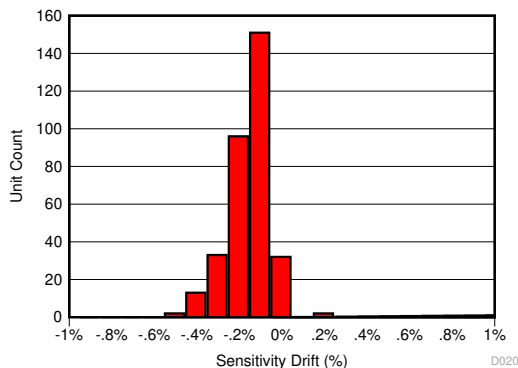
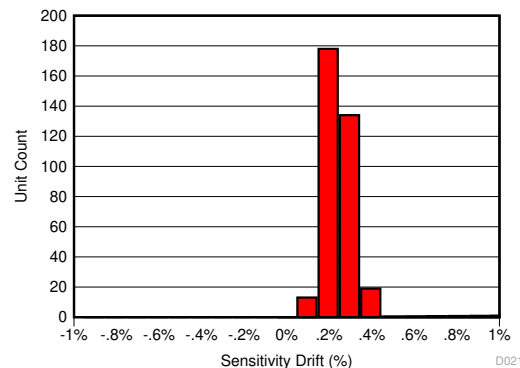
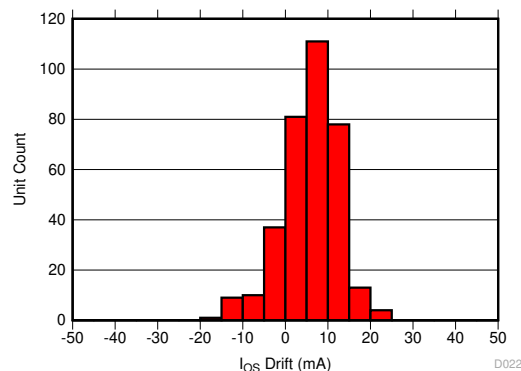

Figure 9-1. Sensitivity Error After 130°C, 85% RH HAST
Figure 9-2. Sensitivity Error Drift After AEC-Q100 High Temperature Operating Life Stress Test
Figure 9-3. Input-Referred Offset Drift After AEC-Q100 High Temperature Operating Life Stress Test
to 3% of sensitivity drift due to aging at high operating temperatures. The TMCS1108 has greatly improved lifetime drift, as defined in the Electrical Characteristics table for total sensitivity error measured after the worst-case stress test during a three lot AEC-Q100 qualification. All other stress tests prescribed by an AEC-Q100 qualification caused lower than the specified sensitivity error, and were within the bounds specified within the Electrical Characteristics table. Figure 9-1 shows the total sensitivity error after the worst case stress test, a Highly Accelerated Stress Test (HAST) at 130°C and 85% relative humidity (RH), while Figure 9-2 and Figure 9-3 show the sensitivity and offset error drift after a 1000 hour, 125°C high temperature operating life stress test as specified by AEC-Q100. This test mimics typical device lifetime operation, and shows the likely device performance variation due to aging is vastly improved compared to typical magnetic sensors.